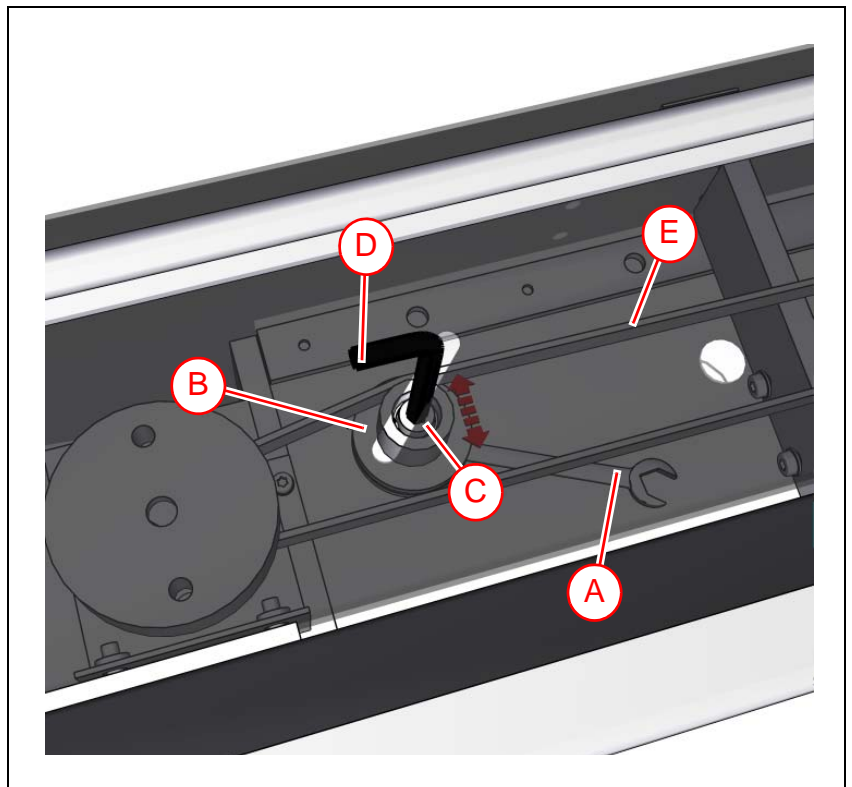

Figure 13-34. Adjusting the belt tension.
1. Use a spanner ('A' in Figure 13-34) to loosen the nut holding the pulley ('B').